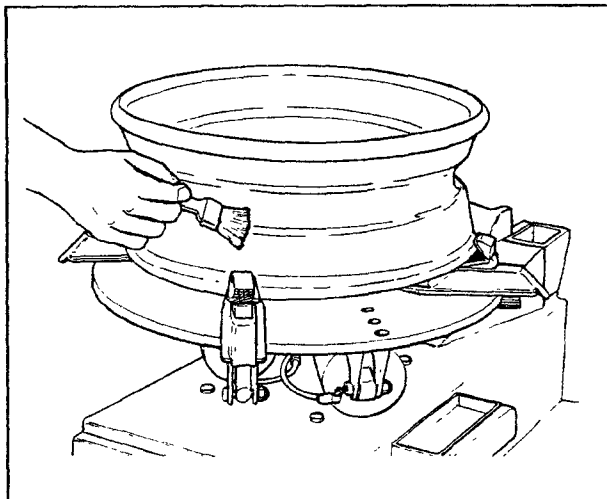

Fig. 15
A. Lubricate the entire rim surface (Fig. 15).